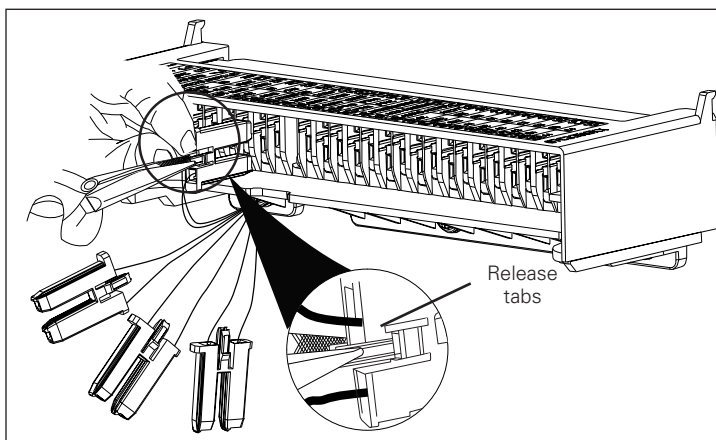

Figure 18. Connector plug removal.
2. Secondary connections are made by plugging the connector plugs into the appropriate location with a matching number label. A connector plug already connected can be removed by squeezing two release tabs together with small needle nose pliers and pulling out (Figure 18).
Step 5: To remove an accessory plug on a fixed circuit breaker, the appropriate fixed secondary terminal block must first be removed. To remove a fixed secondary terminal block, lift up on the small flexible mounting tab at the top of the fixed terminal block mounting plate, and rotate the terminal block out in the opposite direction shown in step 4. Once the terminal block is removed, the accessory connector plug can be unplugged from the bottom of the terminal block. Refer to Item 2 and Figure 18 under the heading "General Information" in Section 4 for detailed assistance with the removal.
Step 3: To remove an accessory connector plug on a drawout circuit breaker, unplug it from its secondary plug housing. Refer to Item 2 and Figure 18 under the heading “General information” in this section for detailed assistance with the removal.